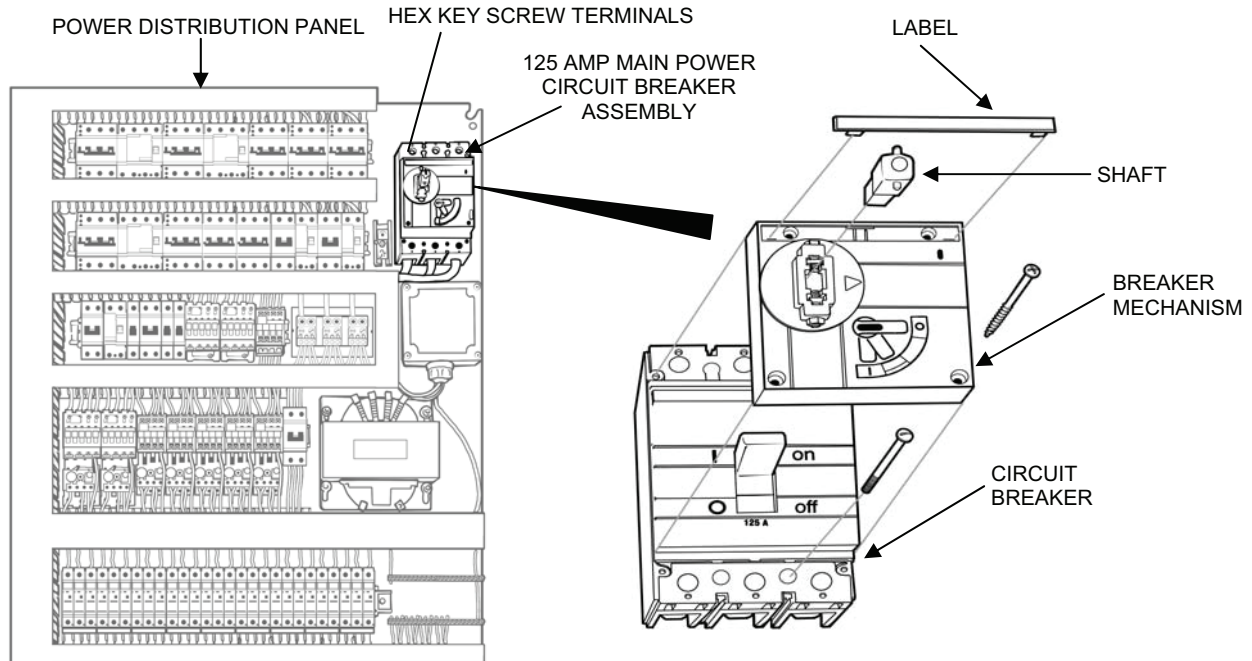

Figure 11. 125 Amp Main Power Circuit Breaker Assembly Replacement.
1. Remove the 125 Amp Main Power circuit breaker as follows (see Figure 11):